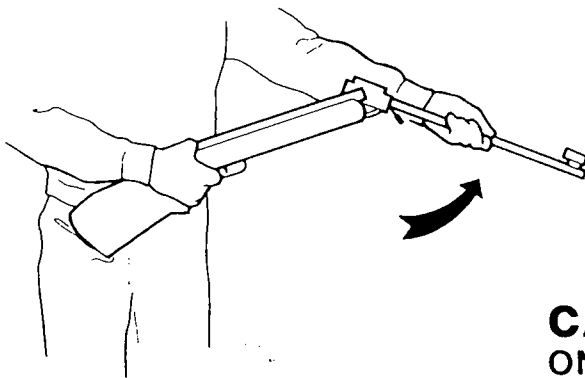

FIG. 5
- Move the barrel back to its original position by pushing the barrel up until it locks. Once again, be careful not to pinch your hands or fingers. (Fig. 5.)